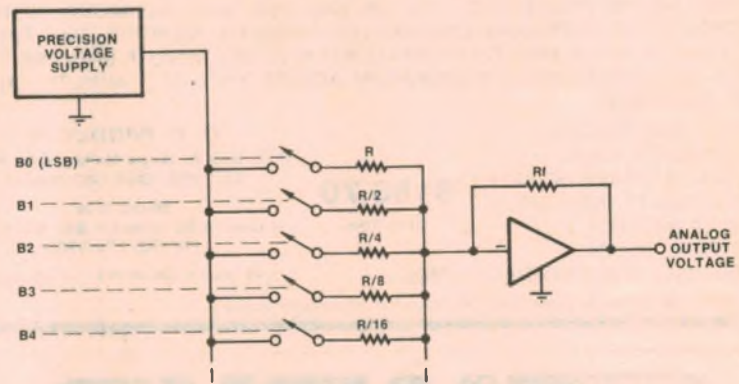
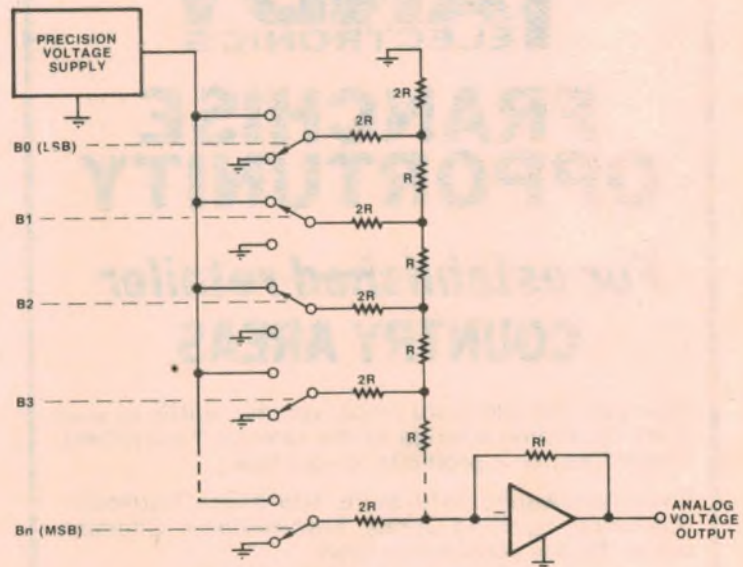

FIG. 2 : WEIGHTED-RESISTOR DAC
FIG. 3 : LADDER NETWORK DAC
Essentially a multiplying DAC is rather like those in Figs. 2 and 3, except that an analog input signal may be fed into the switched weighting resistors or the ladder network, in place of the fixed precision reference voltage. The DAC's output signal amplitude will then depend not only upon the magnitude of the digital input, but also on the analog input amplitude. In effect, the DAC multiplies the digital and analog inputs together.
As you can see from Fig. 2 the resistor values in the weighted resistor DAC reduce in value by a factor of 2. This means that for each additional bit involved in the conversion, the required resistance range doubles. For an 8-bit DAC, the B7 or MSB resistor must have a value 128 times smaller than the B0 or LSB resistor. This tends to make the weighted-resistor DAC relatively difficult to implement in integrated circuit (IC) form.
Practical DACs use one of two basic techniques to perform the operation shown in Fig. 1. These are generally known as the "weighted resistor" and "ladder network" techniques, and they are illustrated in Fig. 2 and Fig. 3 respectively.
As you can see from Fig. 3 the **ladder-network DAC** is broadly similar